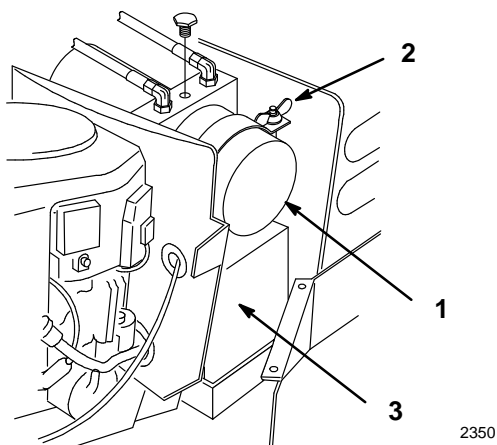

Figure 38
1. With the engine off, open the hood. To see the battery the power lift pump must first be moved (Fig. 38). Loosen wing nut and move pump to the side for battery access (Fig. 38).
5. Install power lift pump and tighten wing nut (Fig. 38).